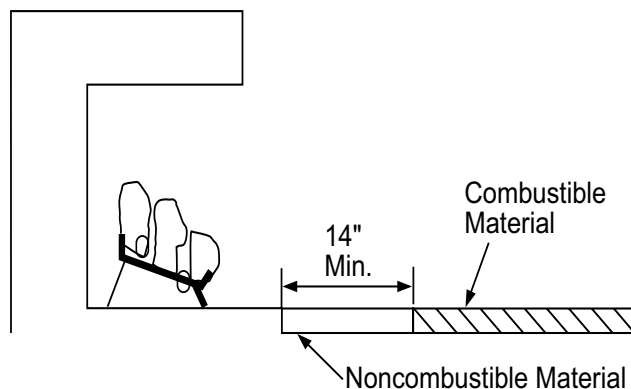

Figure 6 - Minimum Fireplace Clearances If Installed at Floor Level
- If installing appliance on the floor level, you must maintain the minimum distance of 14" to combustibles (see **Figure 6**).